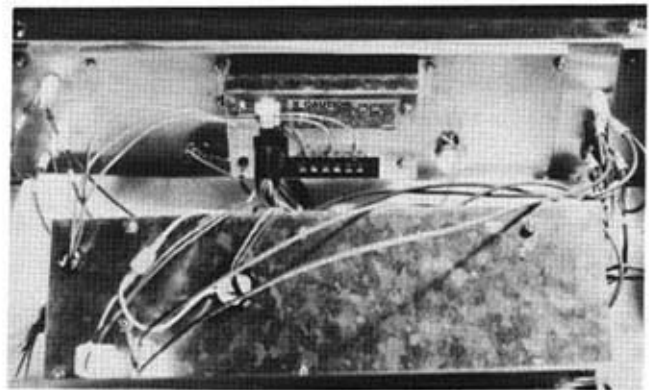

FIG. 4
2. Remove the six (6) screws securing top to side panels and remove top. Save screws for reuse.
3. Remove the two (2) screws securing power board bracket to escutcheon and save for reuse.
4. Carefully lay power board bracket back from escutcheon (See Figure 4).